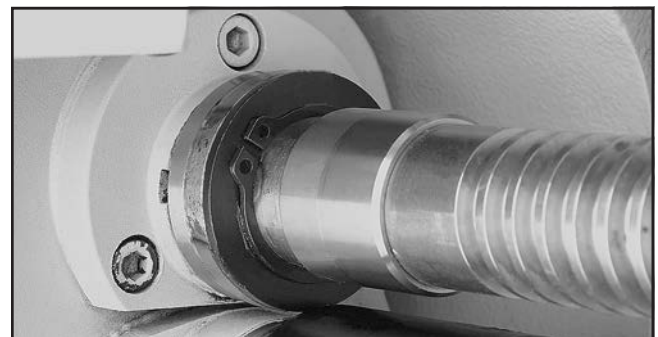

Figure 134. Retaining ring positioned with ears in front of pin access groove.
- Return the retaining ring against the shroud washer and position the retaining ring ears over the shear pin head, as shown in **Figure 134**. This will prevent the shear pin from falling out if the shroud washer should rotate during operation.